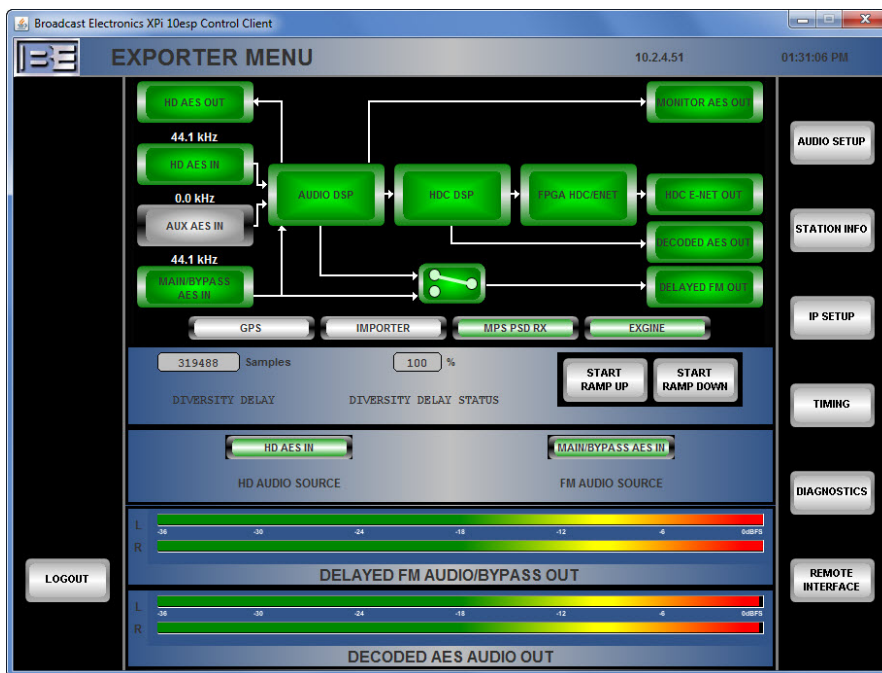

Figure 7 – Main Menu Screen
5. While watching the receiver HD and FM feedback peak holds meters (under RECEIVER FEEDBACK DATA), adjust L1 and L2 on the back panel (lower left, see Figure 7 tag 13) using a small flat-head screwdriver. The peak holds should both be at the same level and between 90% and 95% as much as possible. In general, the highest signal possible peak holds that do not clip is best. Signals that are too low may contain noise that prevents high enough correlations, and signals that are too high may give false positives due to clipping that effectively creates identical sections of audio when there actually is no real correlation.